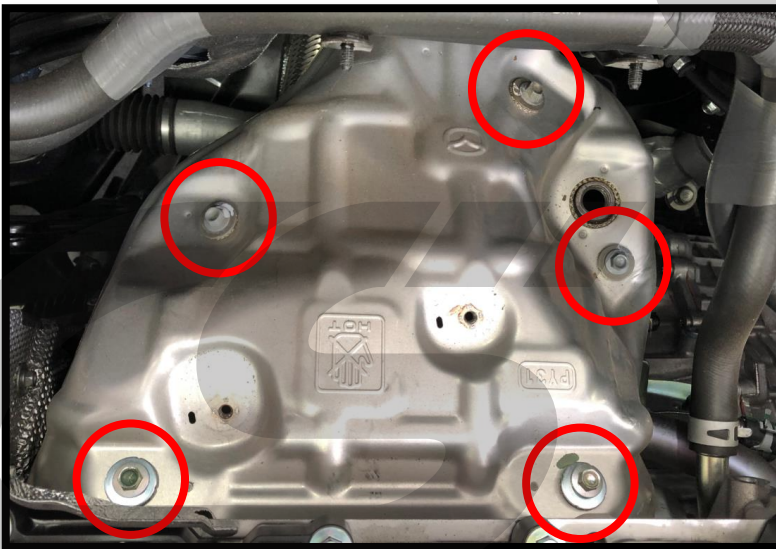

Figure 2g
- i) Loosen the upper manifold heatshield by removing the five 10mm bolts. Shown **circled in red** in **Figure 2g**.